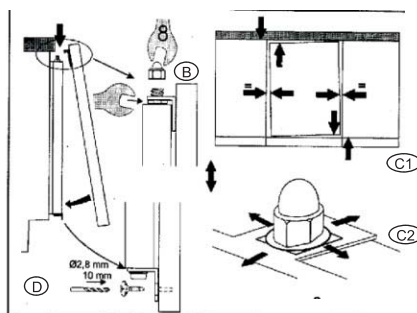

Figure 5
3) Fasten the furniture's door on to the appliance by tightening the upper nuts(Figure 5-A/B). Align the furniture's door to those on the neighbouring units by adjusting the position of the flanges to the furniture's door (Figure 5-D).